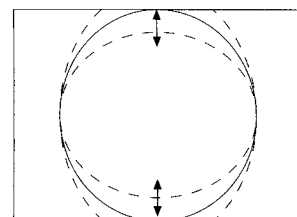

Fig. 8
- Adjust the vertical size to obtain overscan (fig. 8).